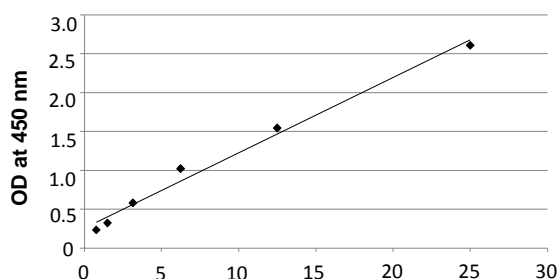
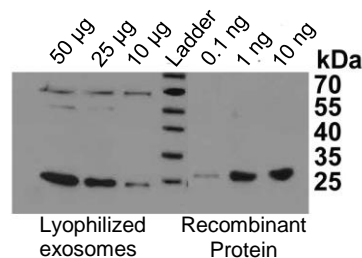

Figure 4. CD9 titration of plasma healthy donor exosome standards.
Figure 5. CD9 marker detection by Western Blotting on lyophilized exosomes from human plasma and the recombinant CD9 protein.
- 10. Sensitivity:** The sensitivity of the kit was compared to Western blot. The data reported in Figure 4 and 5 demonstrate that the sensitivity of the kit is higher than that of Western blotting. Figure 5 shows that 10 µg of lyophilized exosomes is equivalent to 0.1 ng of the recombinant exosomal protein (CD9). Since the standard curve's lower concentration is 0.39 µg of lyophilized exosomes (Figure 4), the sensitivity of our test is around 39 pg of protein equivalent.